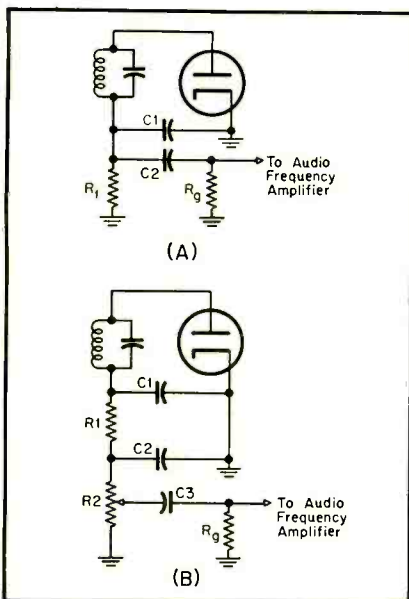

Fig. 3. Two methods of coupling a typical diode detector to the following audio amplifier stage.
Now if the audio output of the detector is coupled to an audio-frequency amplifier stage, the detector may be as shown at (A) in Fig. 3. When the detector output is coupled to a following amplifier stage, the audio-frequency impedance of the detector load is less than the d.c. impedance, the operating point of the detector will not follow the d.c. load line to the origin (a.f. load line coincides with d.c. load line only at quiescent point *Q*), and distortion will occur if the modulation percentage is high. If C_2 has negligible reactance at the modulating frequency, the a.c. impedance of the load is $\frac{R_1 R_g}{R_1 + R_g}$. If
The circuit of (B) in Fig. 3 is perhaps more typical of the usual method of coupling the detector output to an audio-amplifier stage. In this case the diode load is split into two sections, the lower resistor serving as a volume control. For the same total value of diode load (neglecting the shunting effect of R_g and assuming $R_1 = R_2$), the audio output is only half that of the circuit of (A) in Fig. 3. With the volume control set near maximum, for low values of R_g the distortion at high modulation levels, although below that of (A), will be appreciable. However, in most receivers the audio gain is much higher than required for local stations, the volume control is turned to a low setting, and the resulting distortion is small. Furthermore, in most receivers R_g is high enough to have negligible shunting effect at any volume control setting.